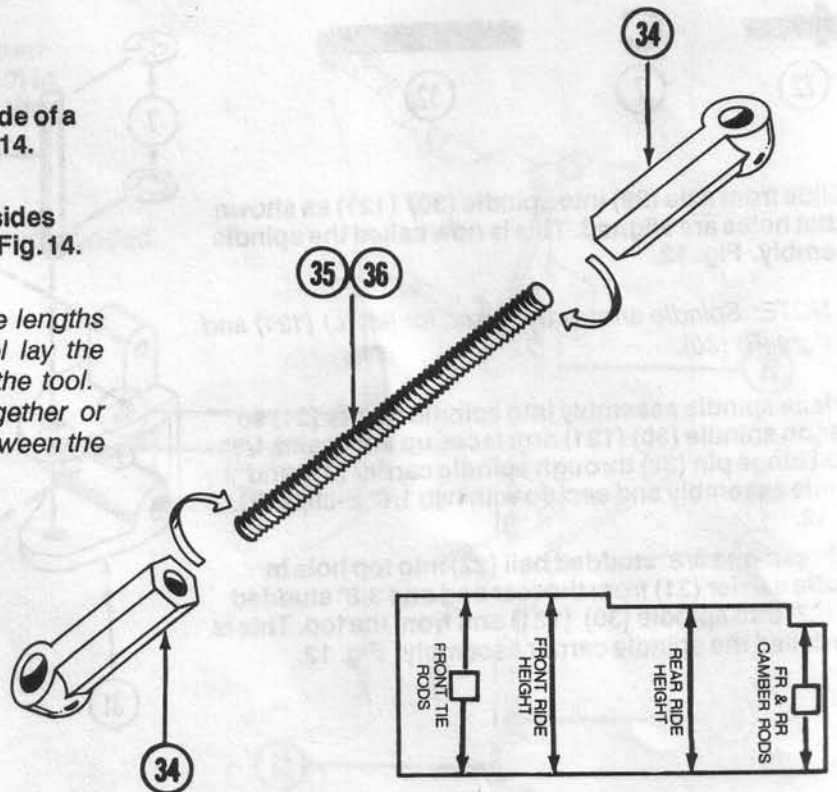

FIG. 14
9. Thread an adjustable rod end (34) onto each side of a 1 1/2" threaded rod (35). This is assembly A. Fig. 14. These are front camber rods.
10. Thread an adjustable rod end (34) onto both sides of a 1 7/8" threaded rod (36). This is assembly B. Fig. 14. These are front tie rods
* NOTE: Use set-up tool provided to adjust the lengths of adjustable links. To use the set-up tool lay the threaded rod against the desired arrow on the tool. Screw the rod ends (34) equally closer together or further apart until the arrow on the tool fits between the rod ends (34).